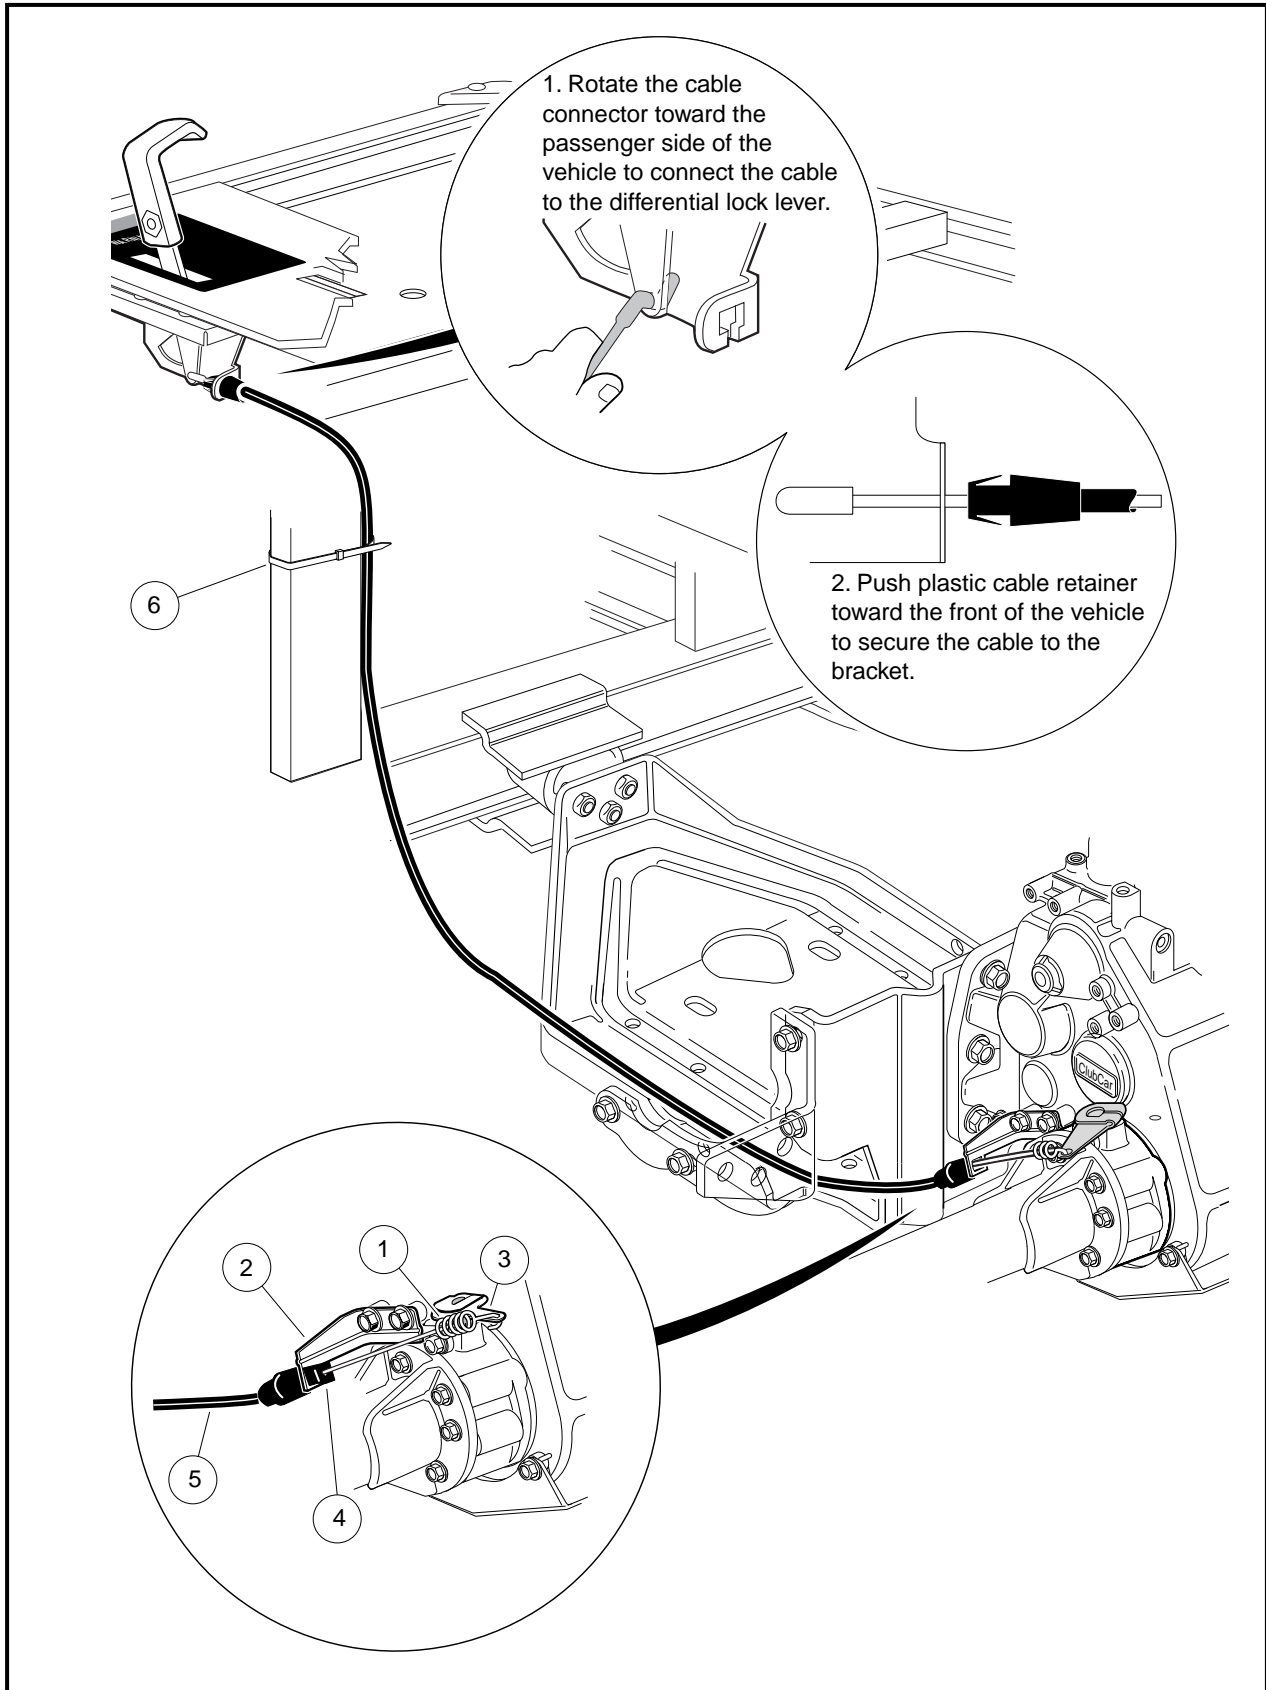

Figure 16-117 Differential Lock Cable Routing
- 33.4. Push the cable sheath toward the front of the vehicle to secure the cable to the bracket (**Figure 16-117, Page 16-50**).
- 33.5. Secure the cable to the vertical support with a wire tie (6) as shown (**Figure 16-117, Page 16-50**).
2. Remove wire tie (6) securing the cable to the vertical support (**Figure 16-117, Page 16-50**).
6. Unhook the cable spring (1) from the differential lock arm (3) (**Figure 16-117, Page 16-50**).
7. Using a pair of pliers, apply pressure to the locking tabs of the cable end (4) where it attaches to the cable mounting bracket (2) at the transaxle (**Figure 16-117, Page 16-50**).
8. Pull cable (5) toward the front of the vehicle in order to remove the cable from the bracket (2) (**Figure 16-117, Page 16-50**).
1. Route the cable through the engine mounting plate as illustrated (**Figure 16-117, Page 16-50**).
2. Route the cable spring (1) through the cable bracket (2) as illustrated (**Figure 16-117, Page 16-50**).
3. Connect the differential lock cable spring end (1) to the differential lock arm (3) on the differential lock housing (**Figure 16-117, Page 16-50**).
4. Push the cable (5) toward the rear of the vehicle in order to secure the cable to the bracket (2) (**Figure 16-117, Page 16-50**).
- 5.5. Secure the cable to the vertical support as shown with a wire tie (6) (**Figure 16-117, Page 16-50**).